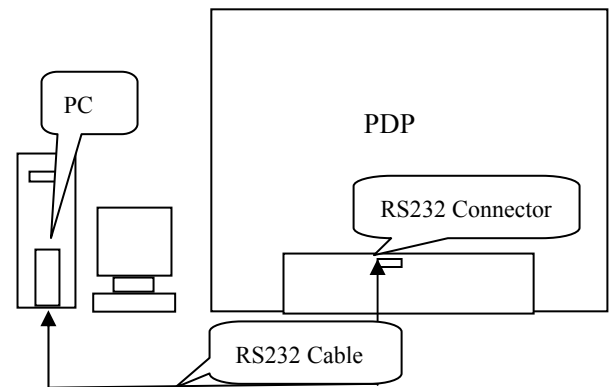

Figure-2
- 2、 Connect the RS232 cable with PC and PDP(See the Figure-2).